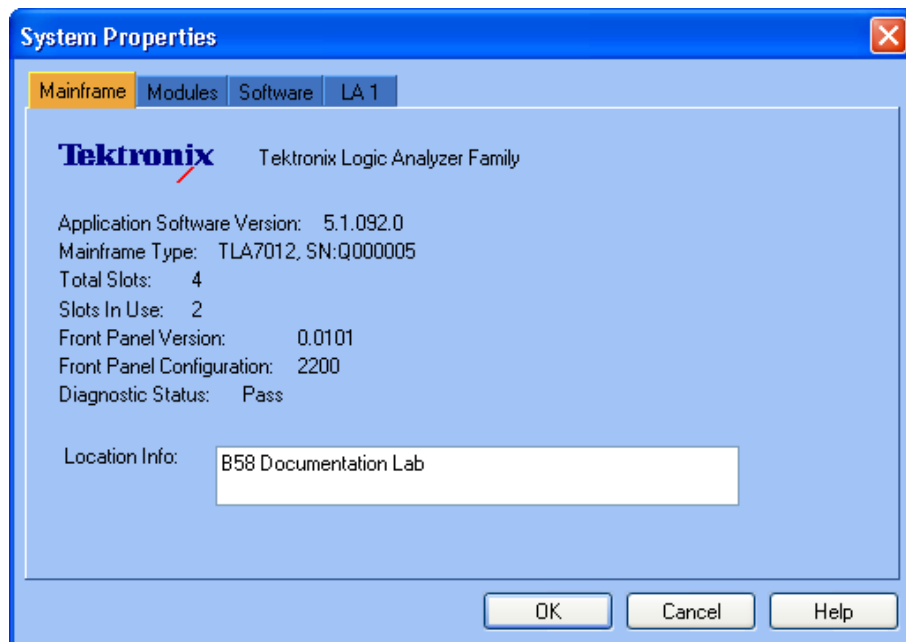

Figure 36: TLA System Properties dialog box
2. From the System menu, select **System Properties**. The System Properties dialog box appears. (See Figure 36.)